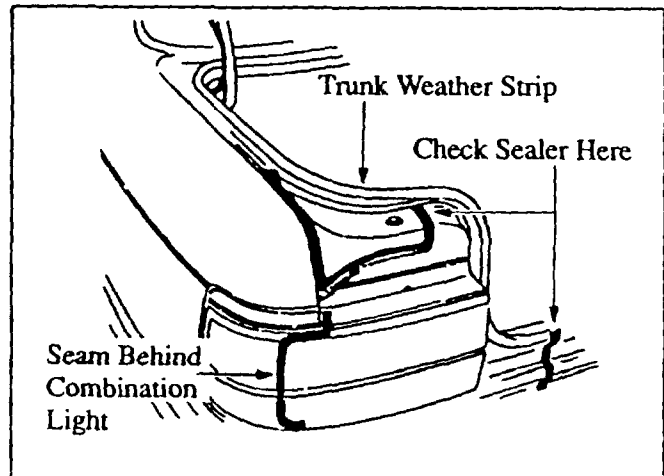

Figure 23: Inspecting Rear Trunk Area
1. If water leaks into the forward area of the trunk, make sure that the weatherstrip is properly seated and not leaking. Figure 23.